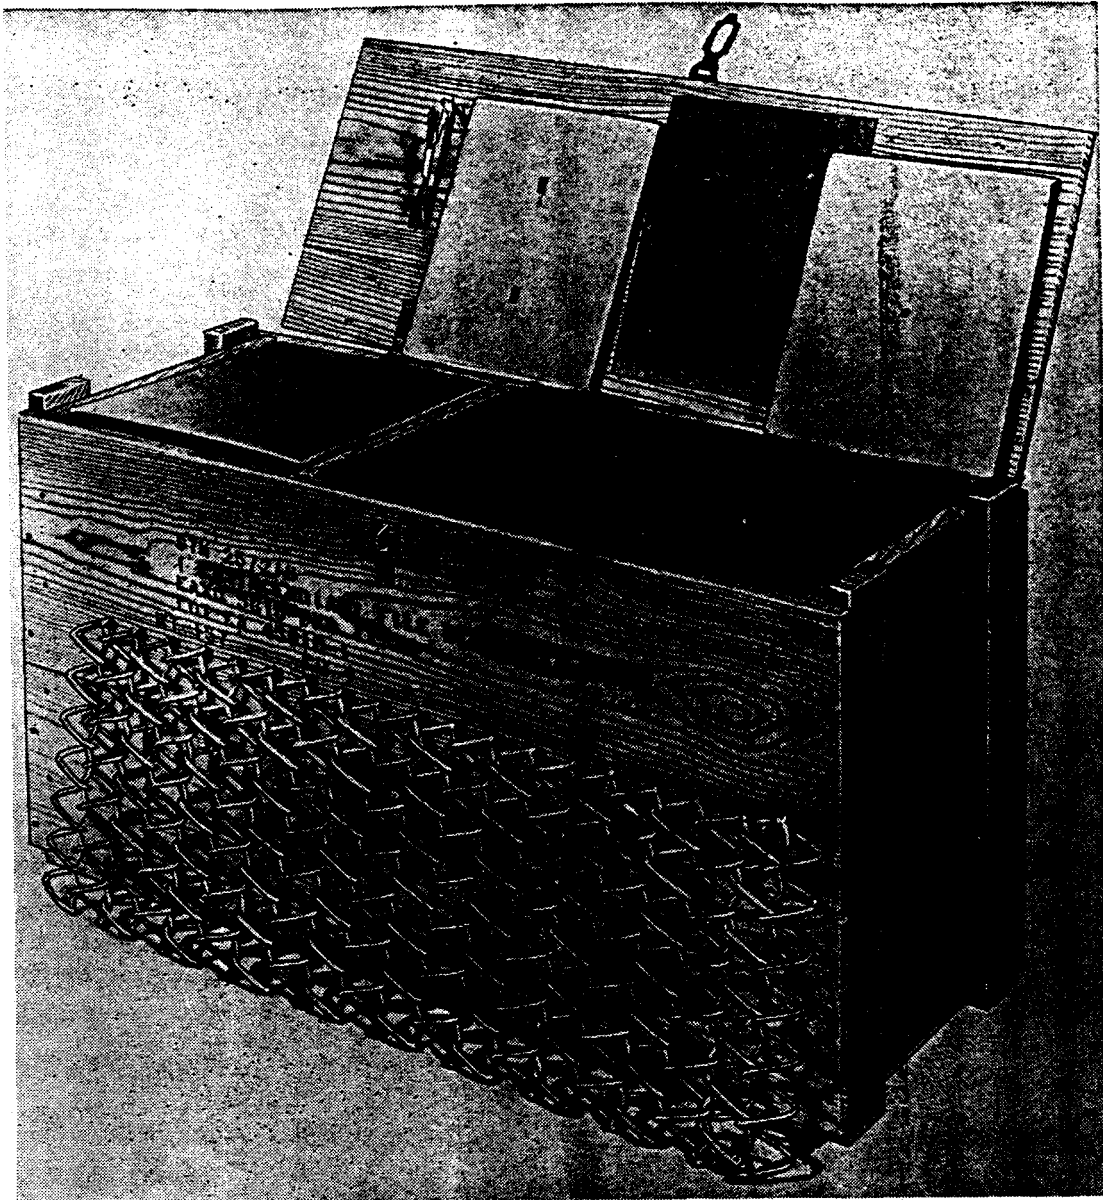

Figure 35. M4 file destroyer incendiary.
a. Use. The M4 file destroyer incendiary (fig. 35) is intended primarily to be used to destroy classified material in three- or four-drawer filing cabinets provided with combination locks. It is designed to permit maximum destruction of classified matter with minimum damage to the premises where the filing cabinets are kept. Combustible material other than files may be destroyed with this incendiary if the installation procedures are varied to suit the circumstances.